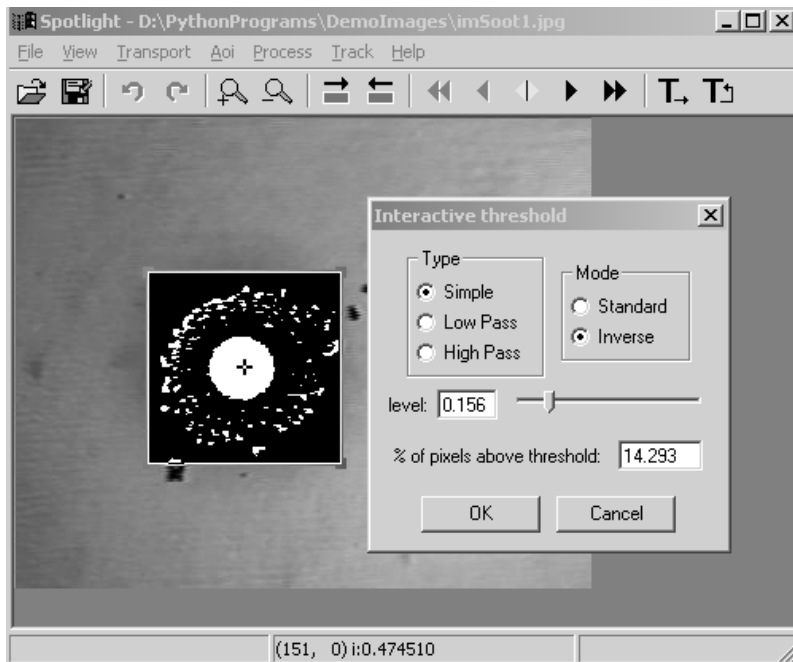

Figure 31. – Center Tracking example.
4. First, we need to determine what threshold levels to use. Select “Process→Threshold” menu item to bring up the Threshold dialog box. Under “Mode”, select “Inverse” to inverse the pixel gray-levels to the Spotlight convention of black background and white foreground. Drag the slider and watch what happens inside the AOI. Level of about 0.156 seems to preserve the right size of the droplet. (Note: the image in Figure 31 was taken at this point) Click OK button to close the Threshold dialog box. What you should be seeing inside the AOI is black background and one large white circle surrounded by white soot particles.